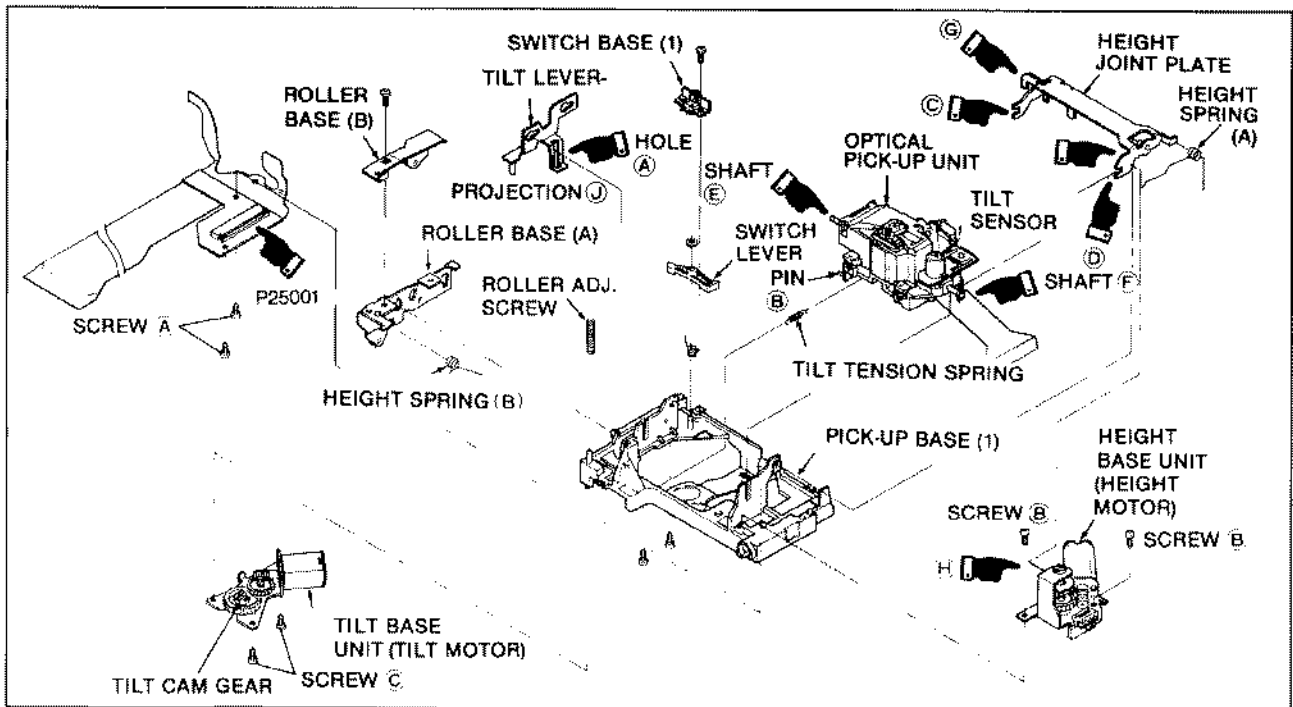

Fig. R20
1. To replace the Tilt Motor Unit, perform item 1 and 2 of Replacement of the Optical Pick Up.
2. Remove 2 screws (C) and take out the Tilt Motor Unit as shown in Fig. R20.